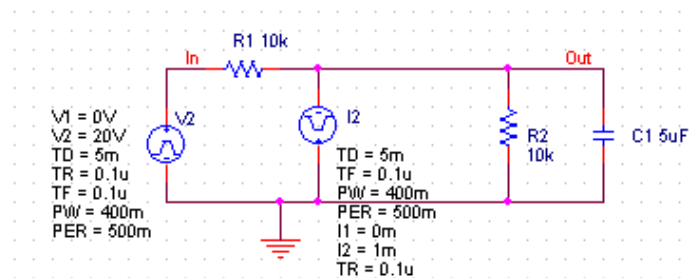

Figure 14: Circuit with a PULSE voltage and current source.
6. Instead of using a switch we can also use a voltage source that changes over time. This was done in Figure 14 where we used the VPULSE and IPULSE sources from the SOURCE Library. We entered the voltage levels (V1 and V2), the delay (TD), Rise and Fall Times, Pulse Width (PW) and the Period (PER). The values are indicated in the figure below.